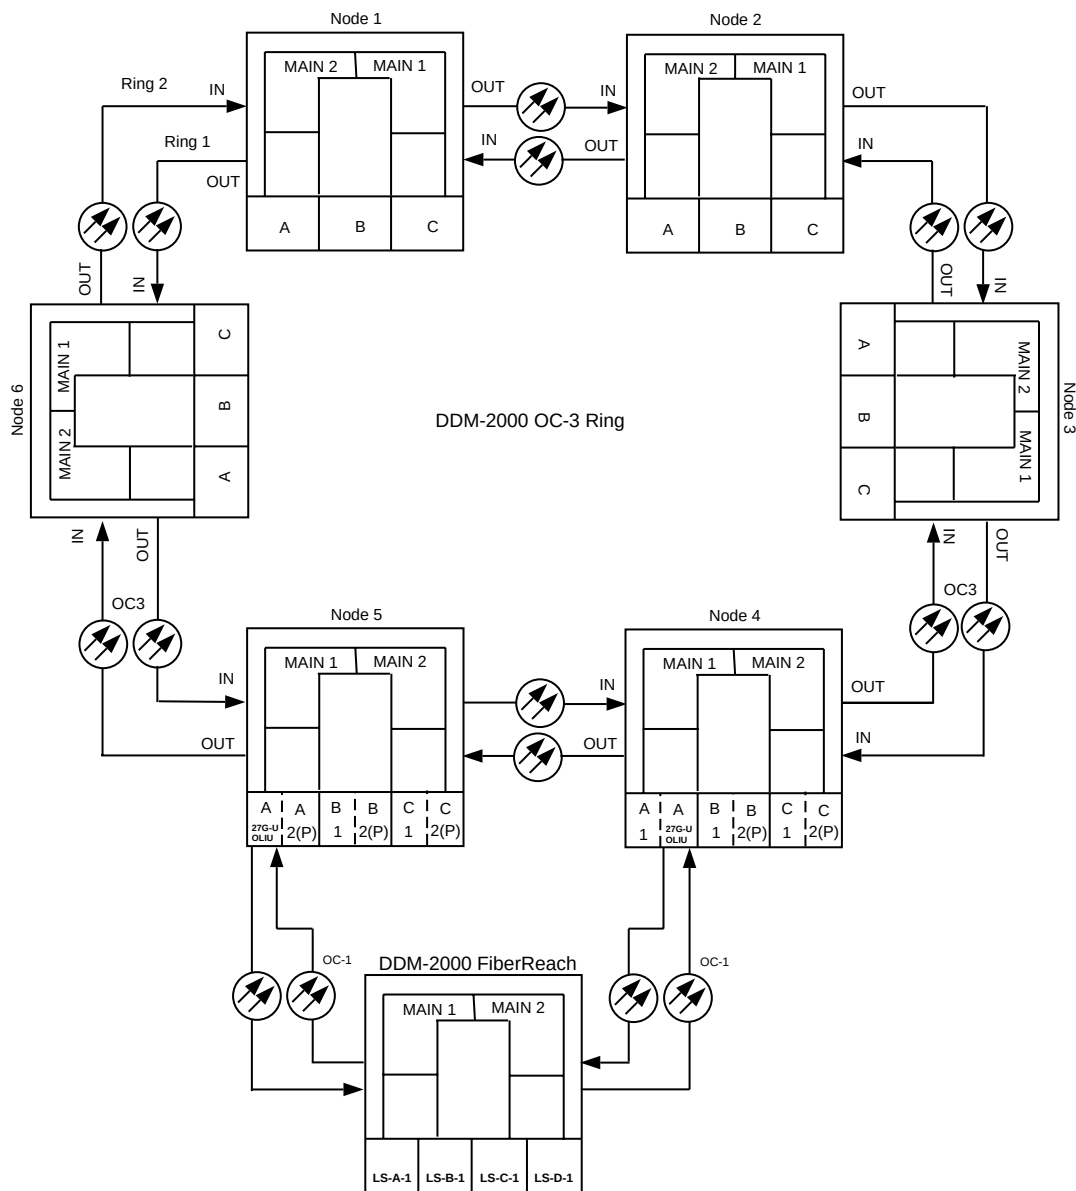

Figure 1. Sample Network Schematic
9. Trouble may be in optical fiber and/or connections. Trouble may also be in **OLIUs**. If the report indicated trouble when the report was obtained from the near end of the span, trouble may be in the receive direction (see Figure 1). If the report indicated trouble when the report was obtained from the far end of the span, trouble may be in the transmit direction. Check optical fiber and connections. Clean optical fiber connections [**DLP-527**]. If no trouble found in the optical fibers, replace **OLIU(s)** [**DLP-523**] associated with the address indicated in the report.
Make a simple drawing of the network and list the TID of each node and how they are connected to each other. Figure 1 shows an example of a simple schematic.